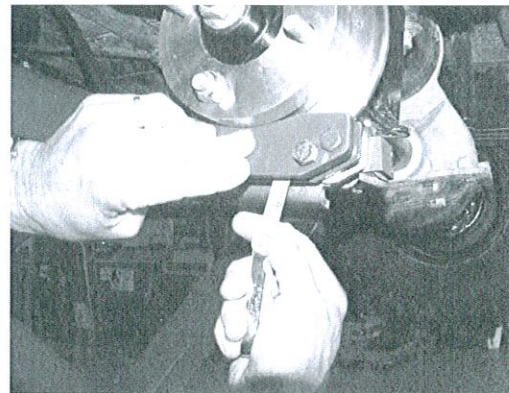

Fig. M3 - Check pad clearance of both wheels at the same time.
- a. Insert feeler gauge between back of rotor and inside brake pad in the center of the pad. (See Fig. M3)